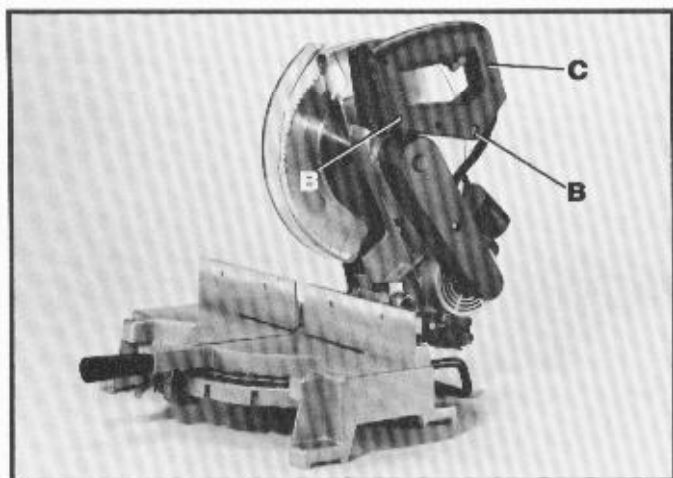

Fig. 28
The cuttinghead handle can be repositioned for operator preference by loosening the two nuts (A) Fig. 27, and two screws (B) Fig. 28. Slide the handle to the desired position and tighten the two nuts and screws.
Fig. 28 illustrates the handle (C) in the lowest position which is usually used when the miter box is being operated on a bench or work stand.